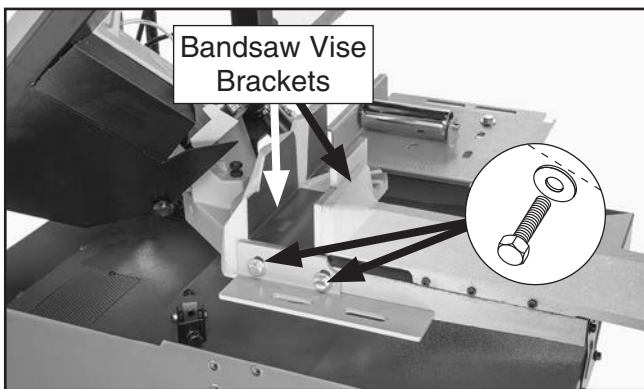

Figure 5. Infeed mounting bracket attached to saw vise.
3. Attach infeed mounting bracket to rear vise bracket on bandsaw with (2) M10-1.5 x 25 hex bolts and (2) 10mm flat washers (see **Figure 5**).
7. Tops of all rollers should be level with vise bracket work surface. Adjust heights of tables by loosening, adjusting, then retightening hardware of legs and mounting brackets (see **Figure 5 & 8**).